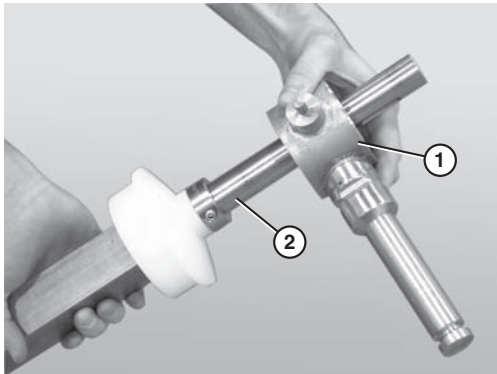

Figure 84
- Slide the second bearing shaft assembly, or the motor mount bracket (Figure 84, item 1), onto the longer end of the drive spindle (Figure 84, item 2).